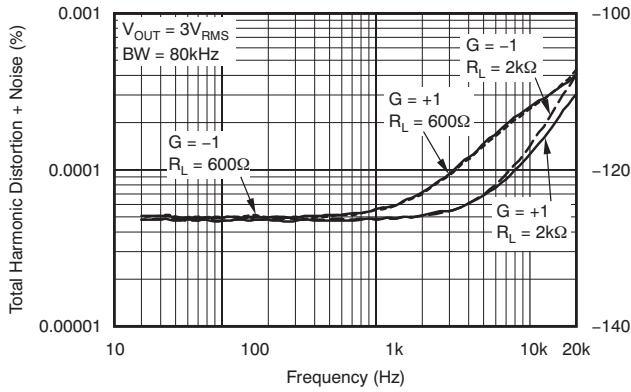
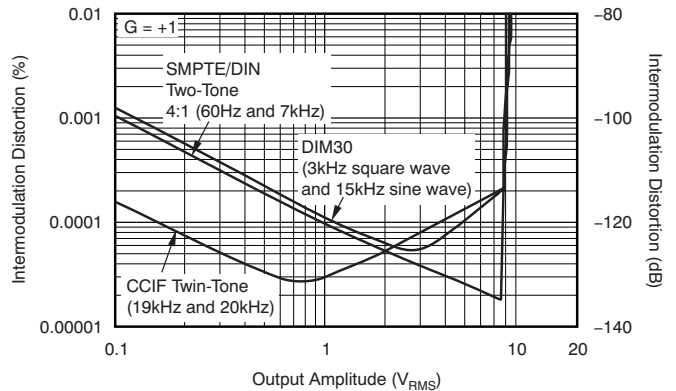

Figure 7.
Figure 12.
The OPA164x series op amps have excellent distortion characteristics. THD + Noise is below 0.00005% ($G = +1$, $V_O = 3V_{RMS}$, $BW = 80kHz$) throughout the audio frequency range, 20Hz to 20kHz, with a $2k\Omega$ load (see Figure 7 for characteristic performance).
(1) For measurement bandwidth, see Figure 7 through Figure 12.